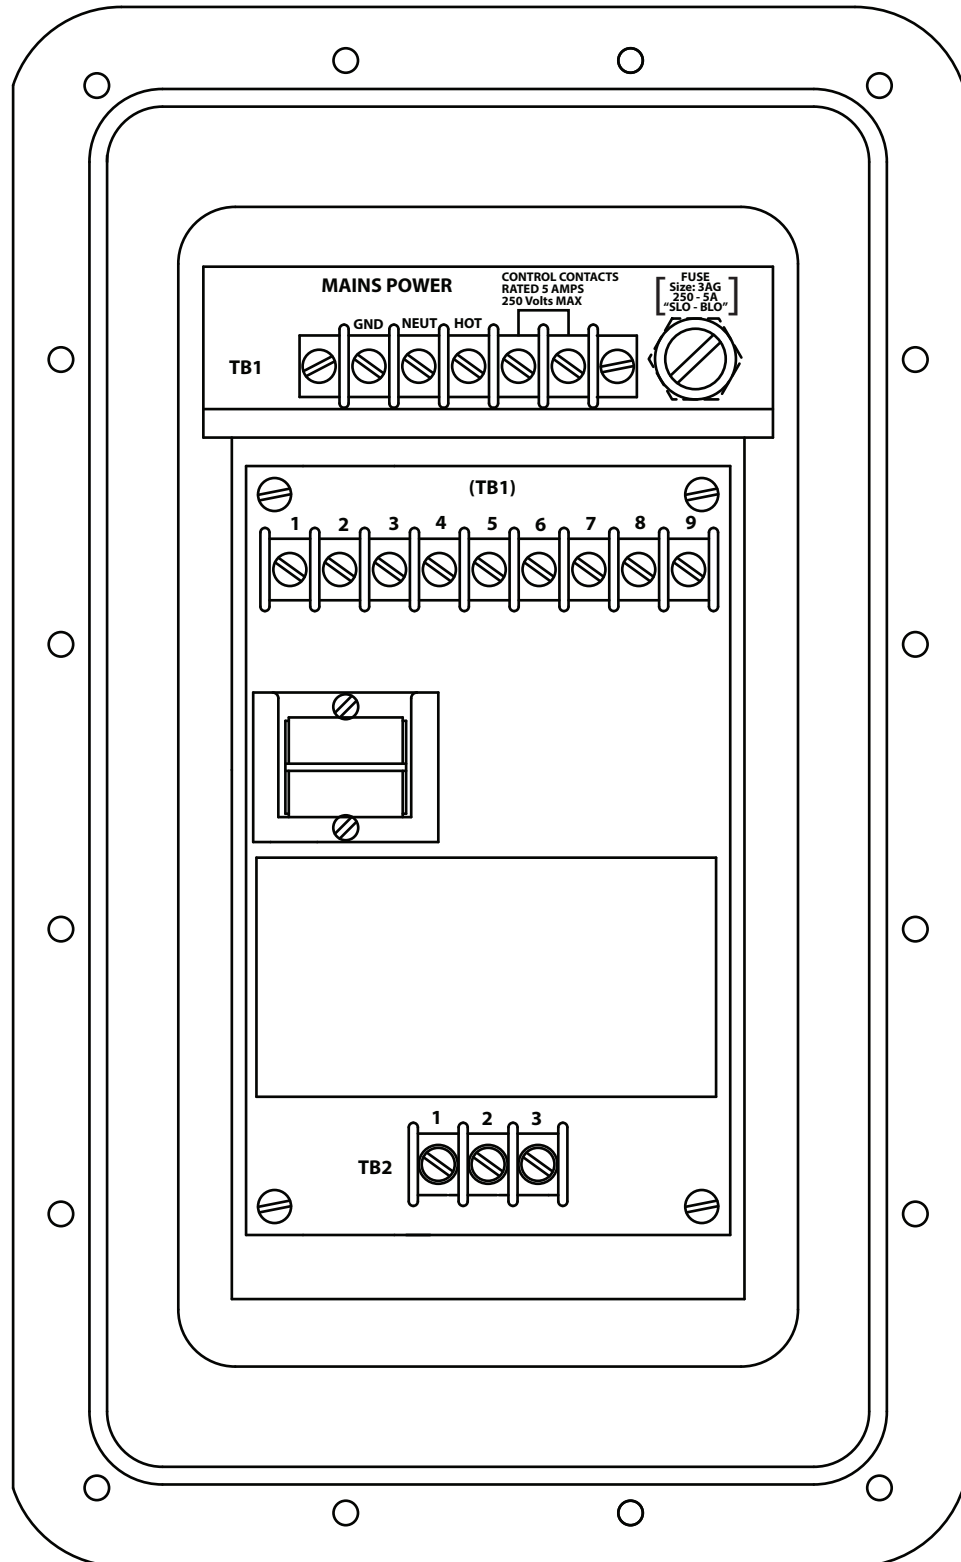

Figure 1.2 ST-47 Terminal Block Location Illustration
The ST-47 Groundhog is a line powered, Self- Proving, Vehicle Ground Verification System. It may be used to insure a safe ground between a terminal loading rack and a tank vehicle which is in the process of loading or unloading a hazardous product. The Groundhog system can be used in one of three modes: 1.) Wire-Through, 2.) Stand -Alone, 3.) Non Self-Proving. Optional front cover lamps indicate grounded (green lamp on) or non-grounded (red lamp on) status. Intrinsically safe ground verification signals connect to TB2 terminals 2 (ground) and 3 (proving signal) in modes 1 and 2. Refer to Figure 1.2 for ST-47 Terminal Block (TB) locations.
(Refer to Figure 1.2 for Terminal Block & Fuse Locations)